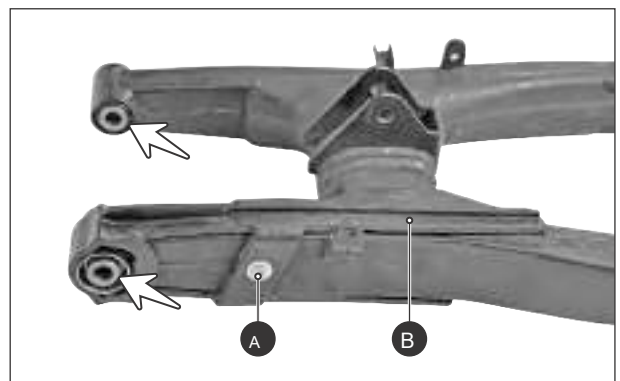

Fig. 6.144
- Remove CRR pan head screw (M6x16 - 1 no.) (A) along with punched washer and take out buffer chain (B) from the swing arm assembly. (Fig. 6.144)
- Draw out both the bush swinging arm (Fig. 6.144) and check the needle bearing for any damage or abnormality. If found any replace the needle bearing as set. Follow the below procedure described below: